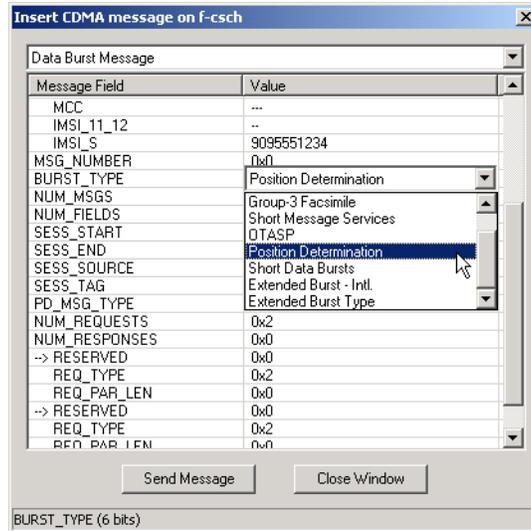

Figure 4-48: IS-801.1 Message Insertion
3. Select **Position Determination** from the BURST_TYPE list, as shown in Figure 4-48.